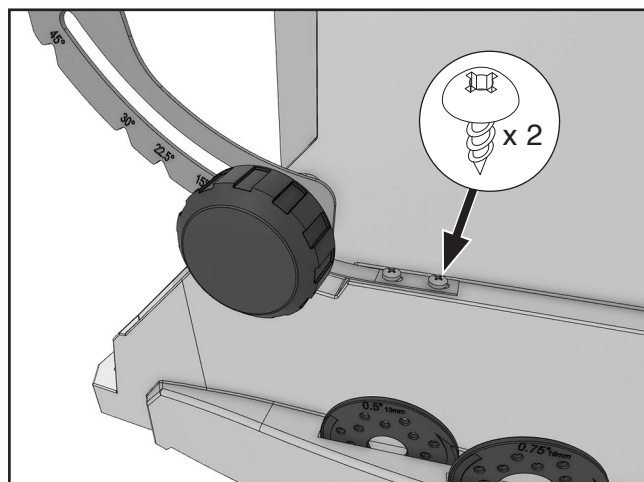

Figure 52. Location of spring plate screws.
4. Loosen (2) spring plate screws (see **Figure 52**).